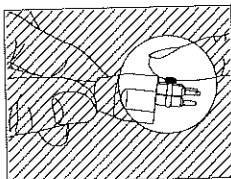

Figure 7
2. Apply a small amount of silicone grease to the three pins on the cable. (Figure 7)